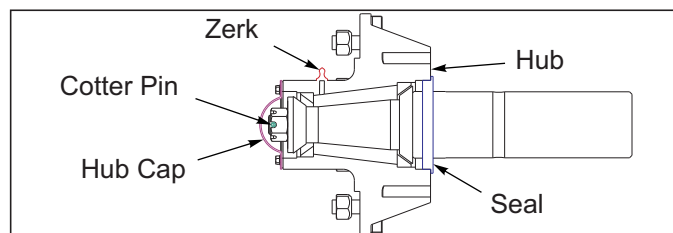

Figure 5-2: NHub Assembly
12. Through the zerk, give 6-8 more pumps of grease. It is not necessary to purge grease through a new seal, as they are filled **See Figure 5-2**